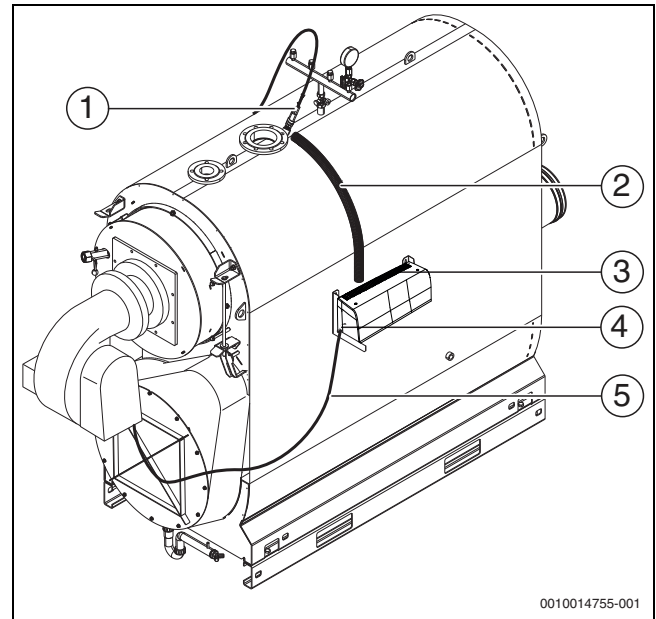

Fig. 23 Fitting the burner cable
The sensors of the high limit safety cut-out (STB) and of the thermostat (TR) must be fitted at the installation location (→ fig. 23, page 24) on the top of the boiler.
The boiler test point is at the top of the boiler shell (→ fig. 23, [1], page 24).